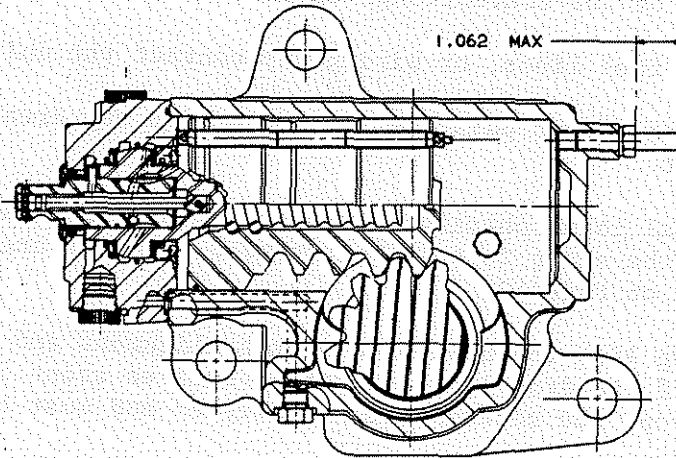

FIG 5. READJUSTING UPPER POPPET
- g. Turn wheel in the opposite direction to set the upper end poppet according to step 4 above (Fig. 5).